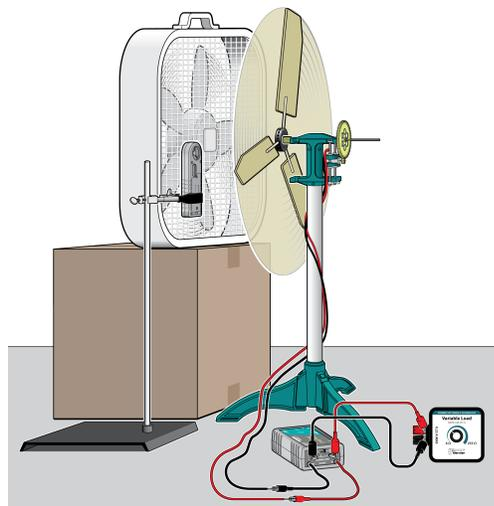

Figure 3
- e. Position the equipment as shown in Figure 3. Align the center of the fan with the center of the wind turbine hub. Measure the distance between the fan and the turbine hub and ensure that the distance remains constant throughout the experiment.